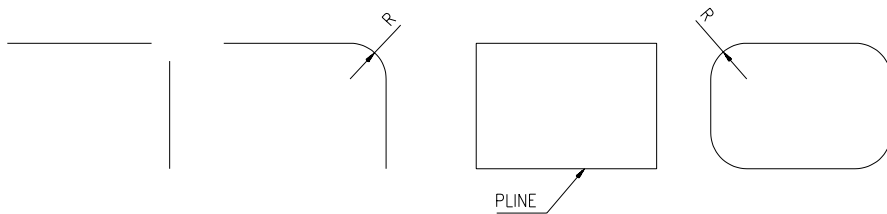

Fig. 3.10
*Select second object: (**a doua entitate**)* (fig. 3.10)